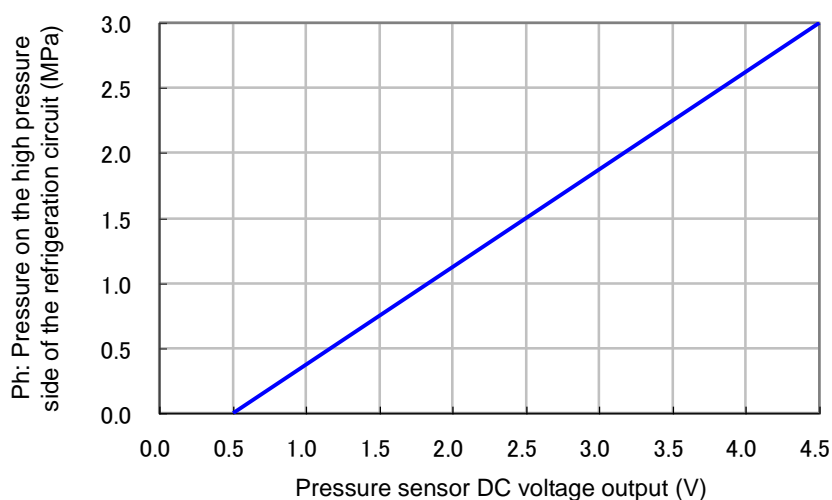

Fig. 3.3-46 Refrigerant circuit pressure sensor (for high pressure) analogue output
- (1) Check the "Ph: Refrigerant circuit pressure on the high pressure side" value in the "Check Monitor Menu".
- (2) Check voltage by contacting the probe of the tester directly to the connector external surface with the "CN4" connector of the main board being inserted.
- (3) Contact the positive probe to the pin number 11 and contact the negative probe to the pin number 10 of the "CN4" connector.
- (4) Check that the voltage between the pin number 11 and the pin number 10 is in the same relationship shown in Fig. 3.3-46. (Accuracy: +/- 5%)
- (5) If the voltage is in the same relationship as the graph shows, it means that the main board is operating correctly.